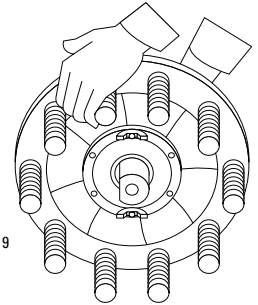

Figure 9
- 2.) Mount the hub assembly onto the axle spindle, while holding the outer cone in place. Make sure the bearing cones, spacer, and spindle are aligned to avoid seal damage (see Figure 9).